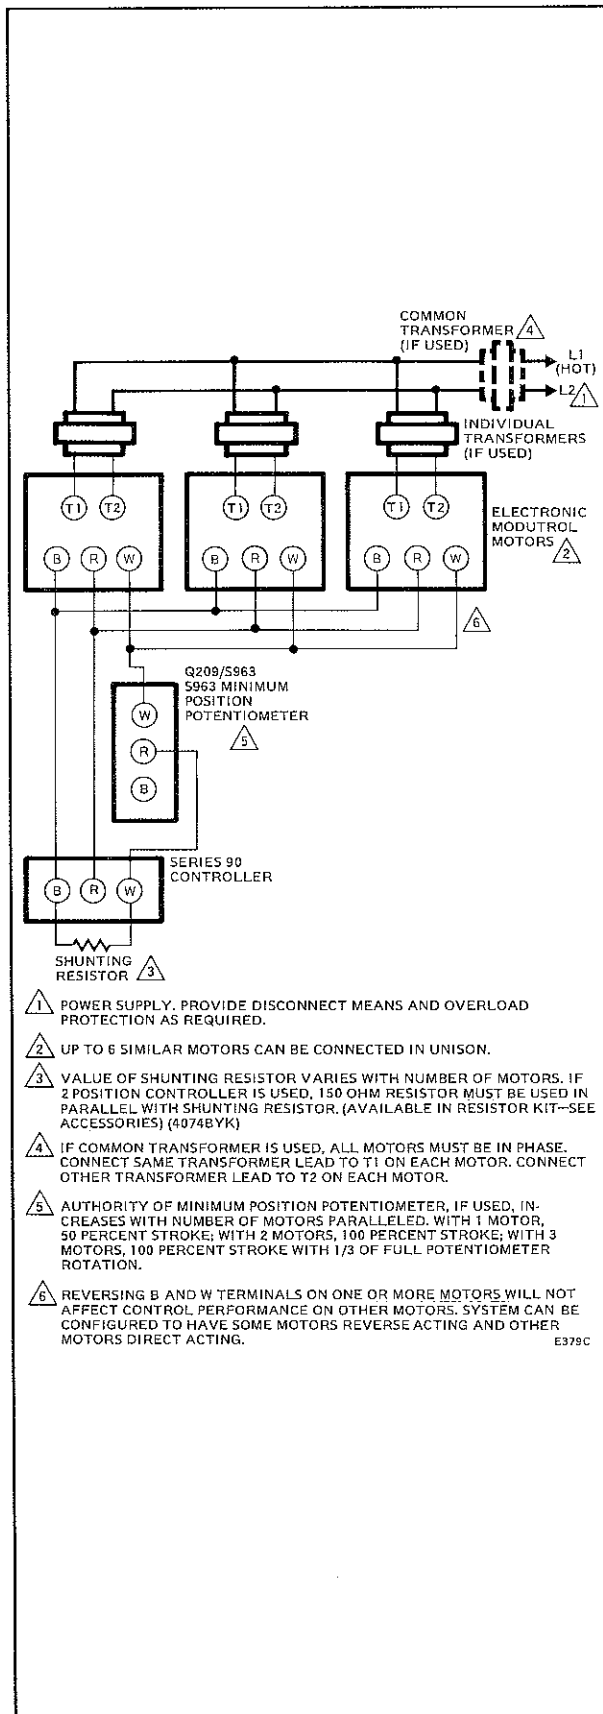

FIG. 15—UNISON CONTROL OF M9184/M9194 MOTORS IN A HEATING APPLICATION. ONE MINIMUM POSITION POTENTIOMETER IS USED FOR ALL MOTORS.
3. Connect selected resistor across W and B terminals as in Fig. 15.